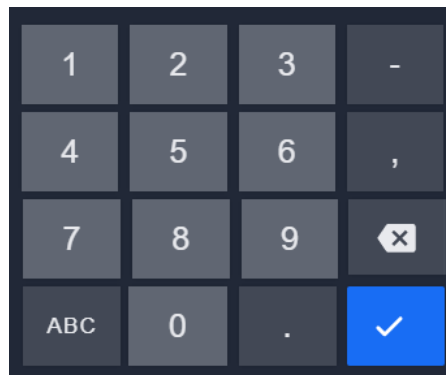

Fig. 1.27
2. Tap the PIN field and enter your four-digit PIN using the pop-up keypad (Fig 1.27).